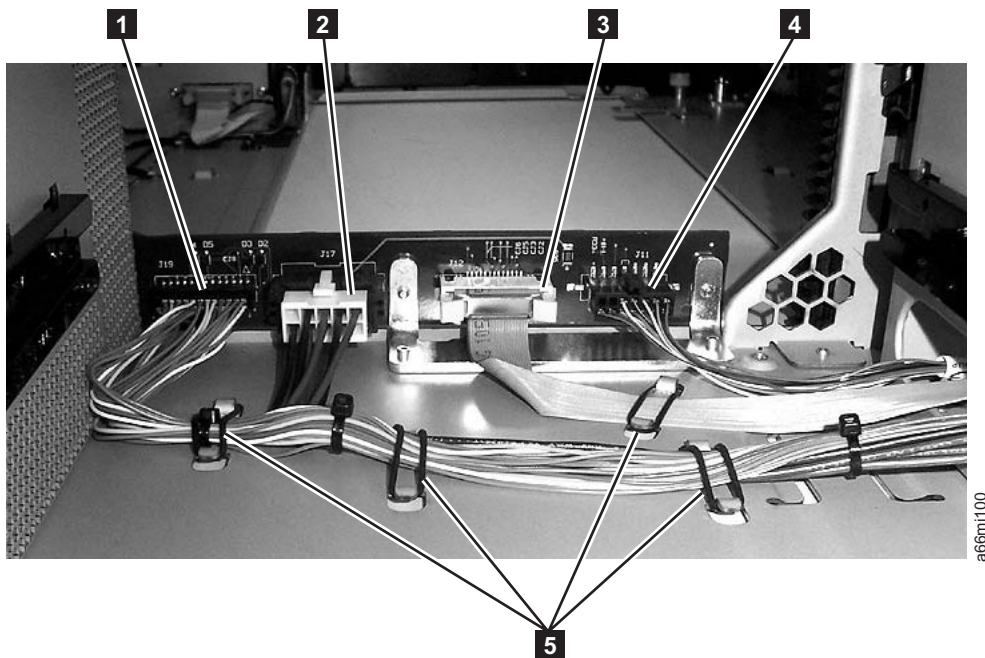

Figure 7-13. Backplane Connect Board connectors (back, drive sleds removed)
4. Visually check, and reseal if necessary, all of the connectors on the back of the Backplane Connect Board. See **1**, **2**, **3**, and **4** in Figure 7-13.